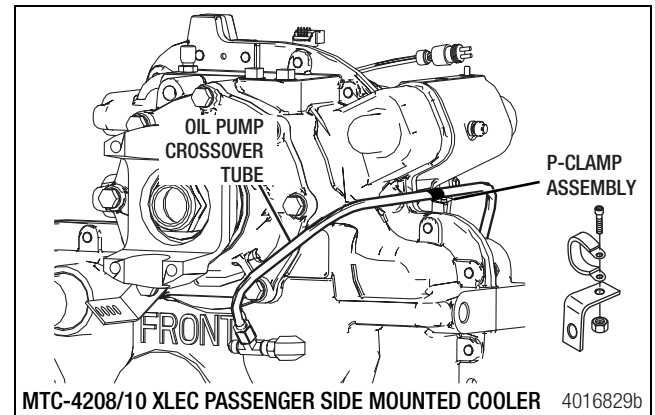

Figure 9.7
1. Install the tee fitting onto the front case idler bearing oil supply port elbow fitting. Tighten the tee fitting to 20 lb-ft (54 Nm). Figure 9.7.
2. Install the new oil pump crossover tube to the tee fitting on the front case half. Tighten the tube nut to 20 lb-ft (27 Nm). Figure 9.7.
3. Reconnect the OE chassis cooler return hose to the tee fitting on the front case half at the idler front bearing position. Tighten the hose nut to 40 lb-ft (54 Nm). Figure 9.7.
5. Remove the housing capscrew and install through the angle bracket as shown in Figure 9.7. Apply Loctite® 242 to the first 3 threads, reinstall, and tighten to 60-75 lb-ft (81-102 Nm). Place the P-clamp around the oil pump crossover tube and, using the supplied socket head bolt and lock nut, attach it to the angle bracket and tighten to 8-10 lb-ft (11-14 Nm).